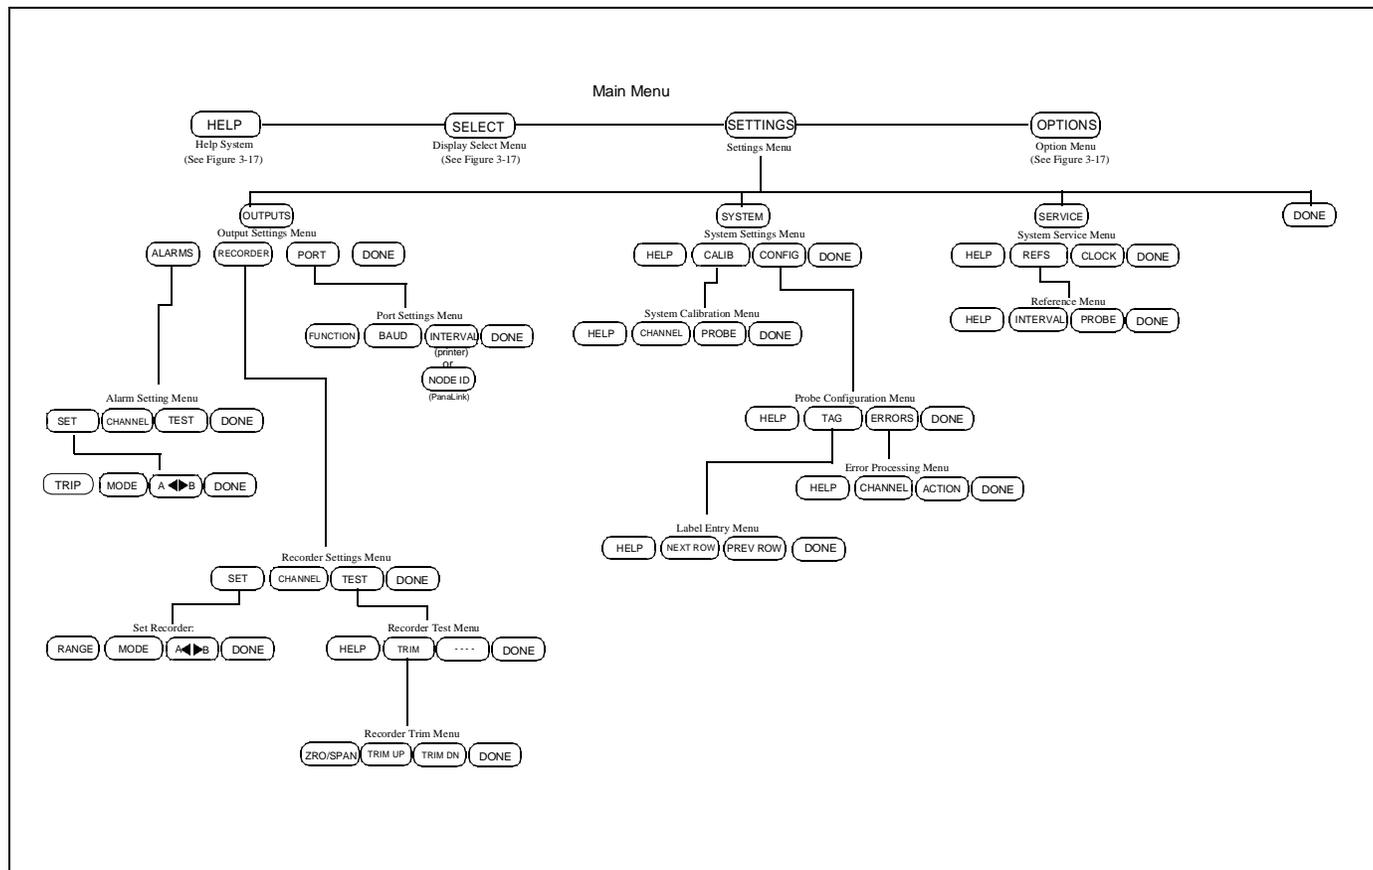

Figure 3-19: Settings Menu
1. Press the keys shown in Table 3-11 above, and a screen similar to that in Figure 3-17 below appears (see Figure 3-19 on page 3-32 for a complete menu map of the procedure).